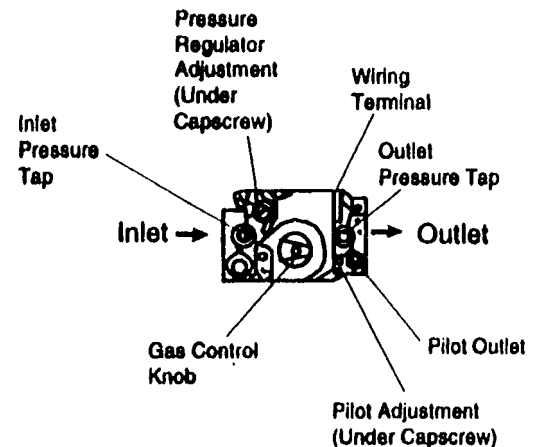

Figure 7.
1. Remove the pilot adjustment cover screw of the gas control. Refer to Figure 7.
2. With the main burner operating, check the gas pressure using a manometer connected to the gas control outlet pressure tap. Refer to Figure 7.